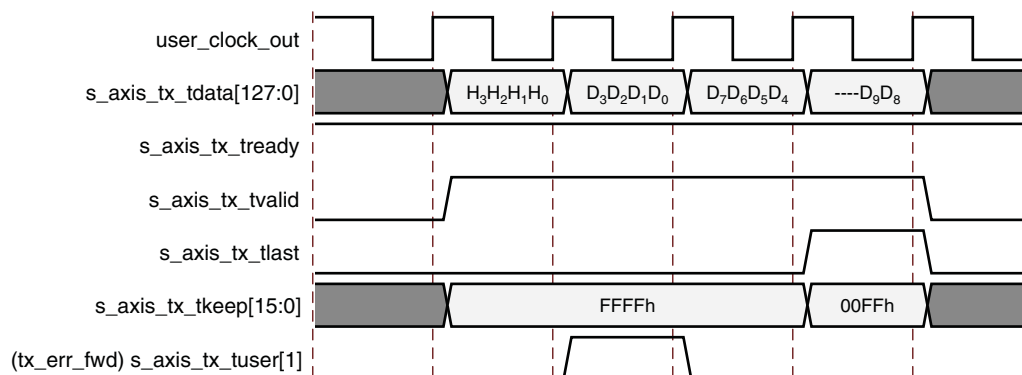

Figure 3-39: Packet Data Poisoning on the Transmit Interface
- Assert `s_axis_tx_tuser[1]` (`tx_err_fwd`) for at least one valid data transfer cycle any time during the packet transmission, as shown in Figure 3-39. This causes the core to set EP = 1 in the TLP header when it transmits the packet onto the PCI Express fabric. This mechanism can be used if the user application does not know whether a packet could be poisoned at the start of packet transmission. Use of `tx_err_fwd` is not supported for packets when `s_axis_tx_tuser[2]` (`tx_str`) is asserted (streamed transmit packets). In streaming mode, you can optionally discontinue the packet if it becomes corrupted. See Discontinuing Transmission of Transaction by Source for details on discontinuing packets.